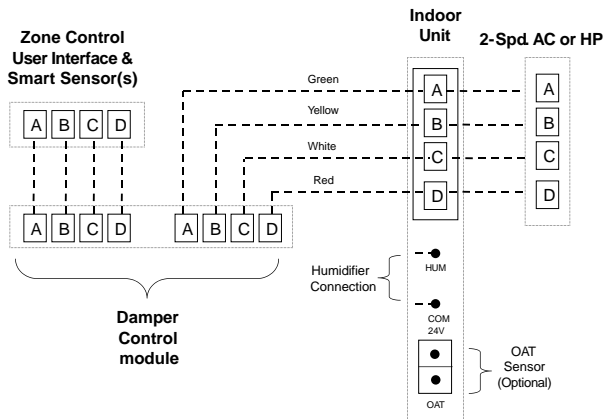

Fig. 12 — Communicating Indoor Unit w/2-Speed Puron™ Communicating Outdoor Unit
- Match and connect thermostat wires to proper terminals on User Interface backplate. See wiring diagram Fig. 12, 13, and 14.
See wiring diagrams Fig. 12, 13, and 14 for connecting the Evolution Zone Control and Smart Sensors to the Damper Control Module. More information regarding Damper Control set-up and wiring can be found in Damper Control Module Installation Instructions.
See wiring diagram Fig. 12 which includes a variable-speed indoor communicating furnace or FE fan coil, with a 2-speed Puron™ communicating outdoor unit. No additional OAT (outdoor air temperature) sensor is required because the Evolution Zone Control will use the temperature sensor inside the 2-speed unit.